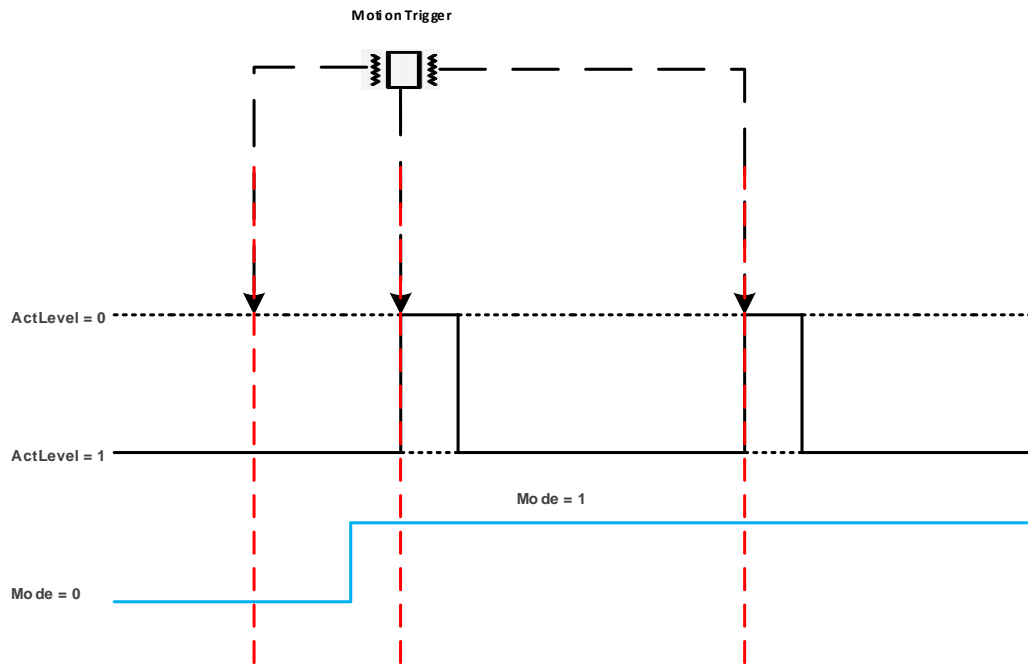

Figure 12: Motion Trigger
- Step 4:** When the module detects motion and the IMU value exceeds the set threshold, the module's WI pin (pin 17) will output an active level, as shown in Figure 12: Motion Trigger.